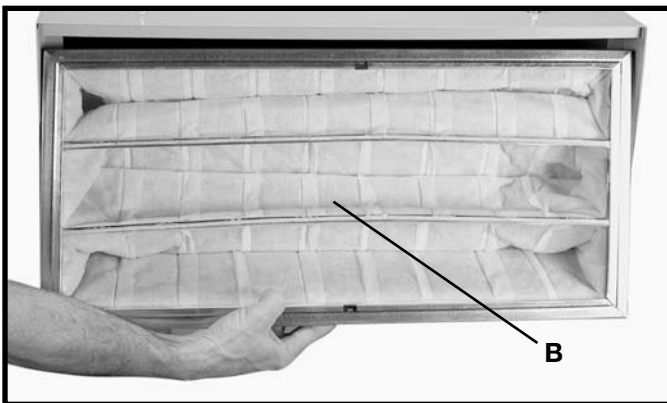

Fig. 12
2. Remove inner bag filter (B) Fig. 12, in the same manner.